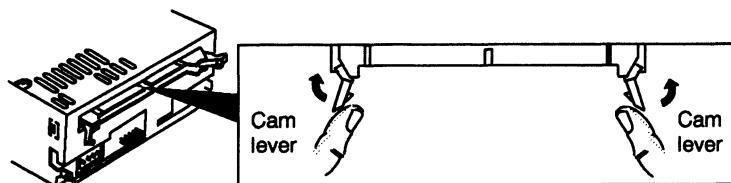

Figure 7 Open the cam levers fully before you attempt to plug in the SCSI bus cable
3. Open the cam levers of the SCSI bus connector (Figure 7).